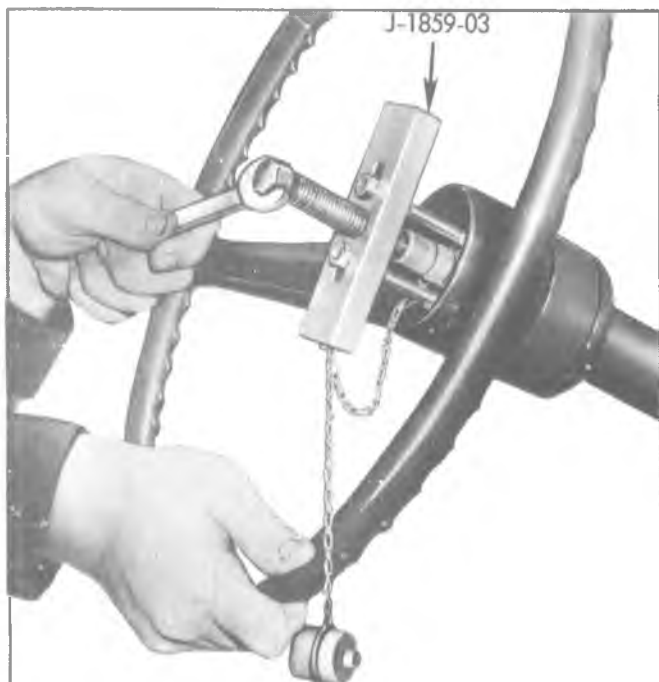

Fig. 3B4-21-Steering Wheel Removal
4. Using tool J-1859-03, thread puller anchor screws into holes provided on steering wheel. See Fig. 3B4-21. Turn center bolt of tool clockwise to remove wheel.